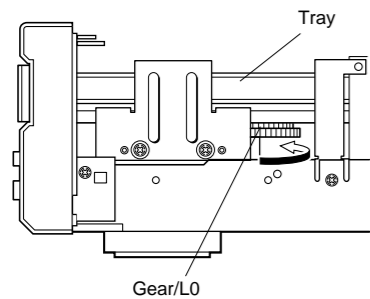

Fig. 2
- b. Turn Gear/L0 as shown in Fig. 2 counter clockwise gradually until immediately before the tray starts to move and stop it there.